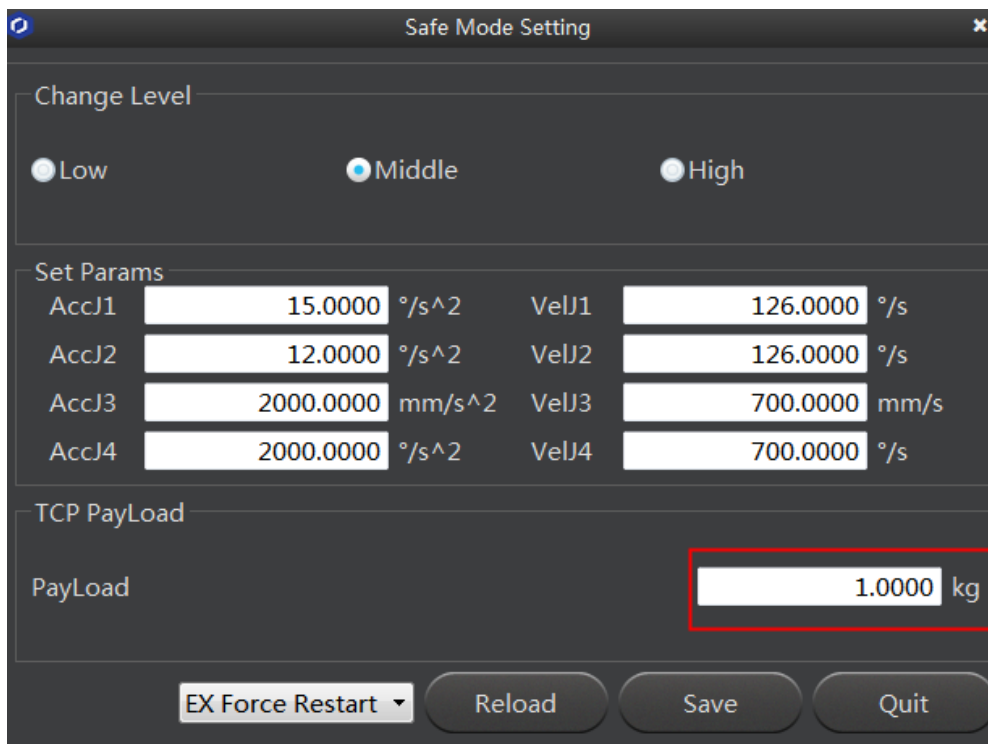

Figure 6.33 Set payload
Step 5 Set the payload based on site requirements. In this topic, we set 1, as shown in Figure 6.33.